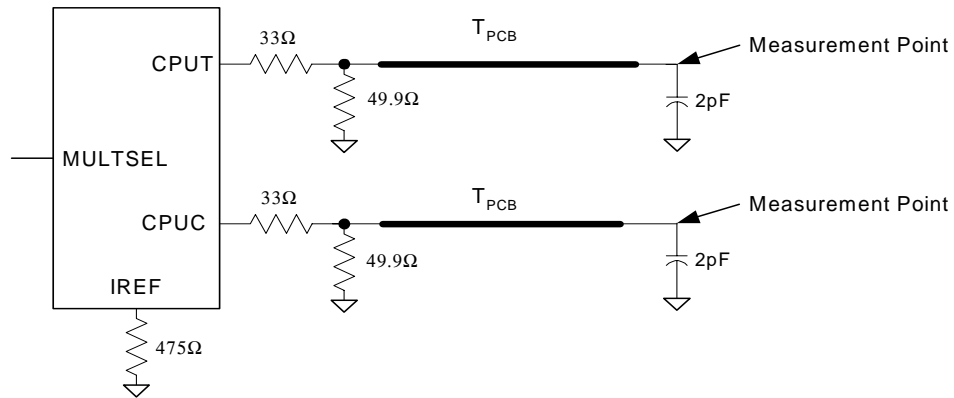
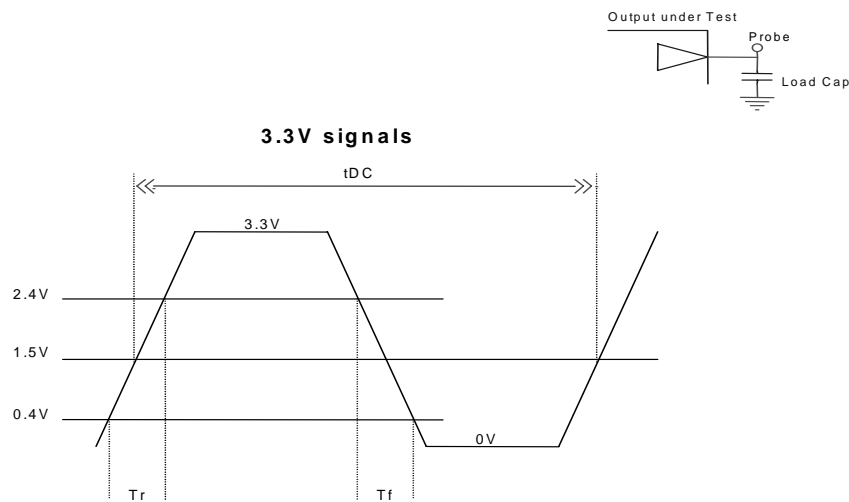

Figure 10. 0.7V Configuration
Figure 11. Lumped Load For Single-Ended Output Signals (for AC Parameters Measurement)
28. For CPU load. See *Figure 10*.
29. See Figure 10 for CPU clocks measurement point. See Figure 11 for SDCLK, AGP, ZCLK and PCI Outputs measurement point.